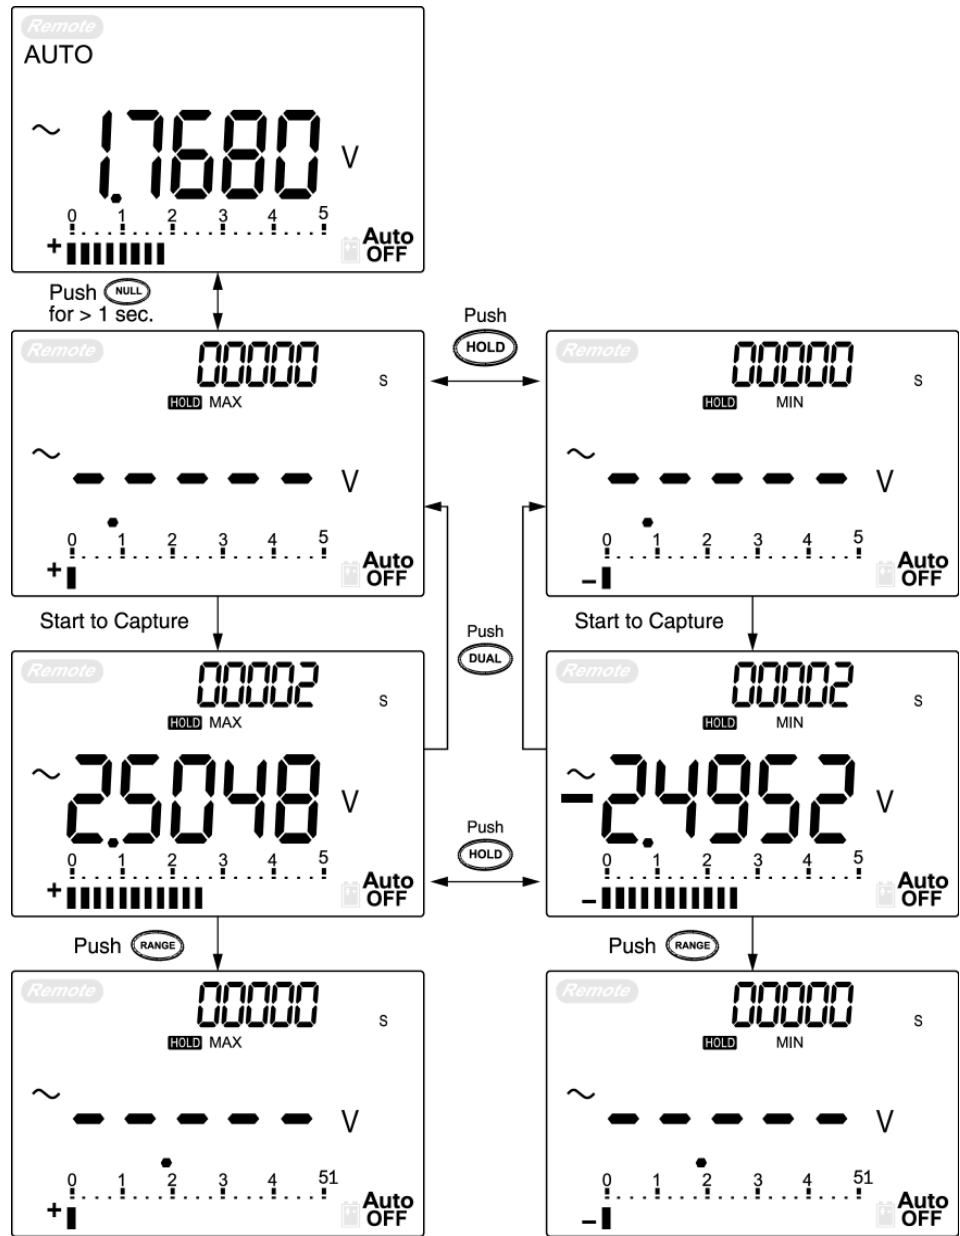

Figure 22 1 ms peak hold mode operation
- 4 According to measurements in **Figure 22**, the crest Factor will be $2.5048 / 1.768 = 1.416$.